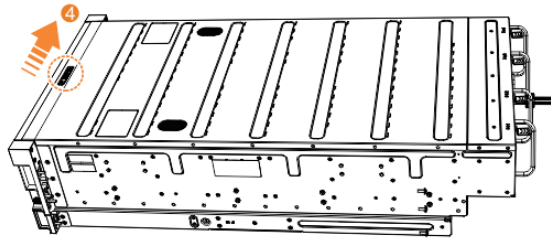

Figure 110. Locking the top cover
10. Lock the cover into position by sliding the release lever (4), as shown in Figure 110 on page 159